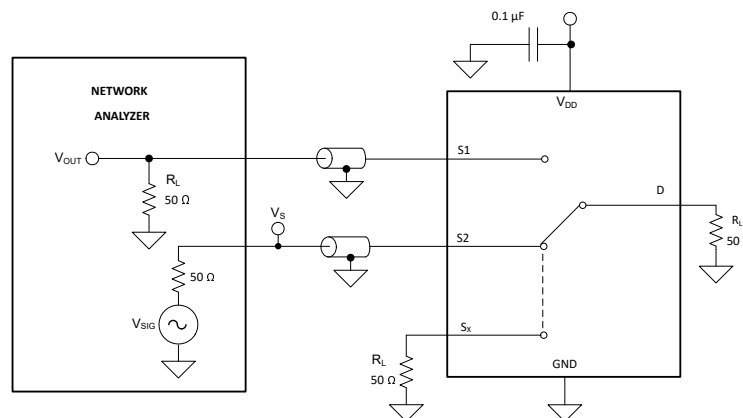

Figure 8-10. Channel-to-Channel Crosstalk Measurement Setup
Crosstalk is defined as the ratio of the signal at the drain pin (D) of a different channel, when a signal is applied at the source pin (S_x) of an on-channel. Figure 8-10 shows the setup used to measure, and the equation used to compute crosstalk.